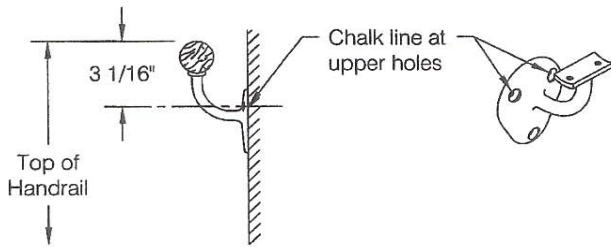

fig 1
Step 1: Determine top of handrail height and snap a chalk line 3 1/16" below for the centerline of the mounting hardware associated with the two upper mounting holes, see **fig. 1**.